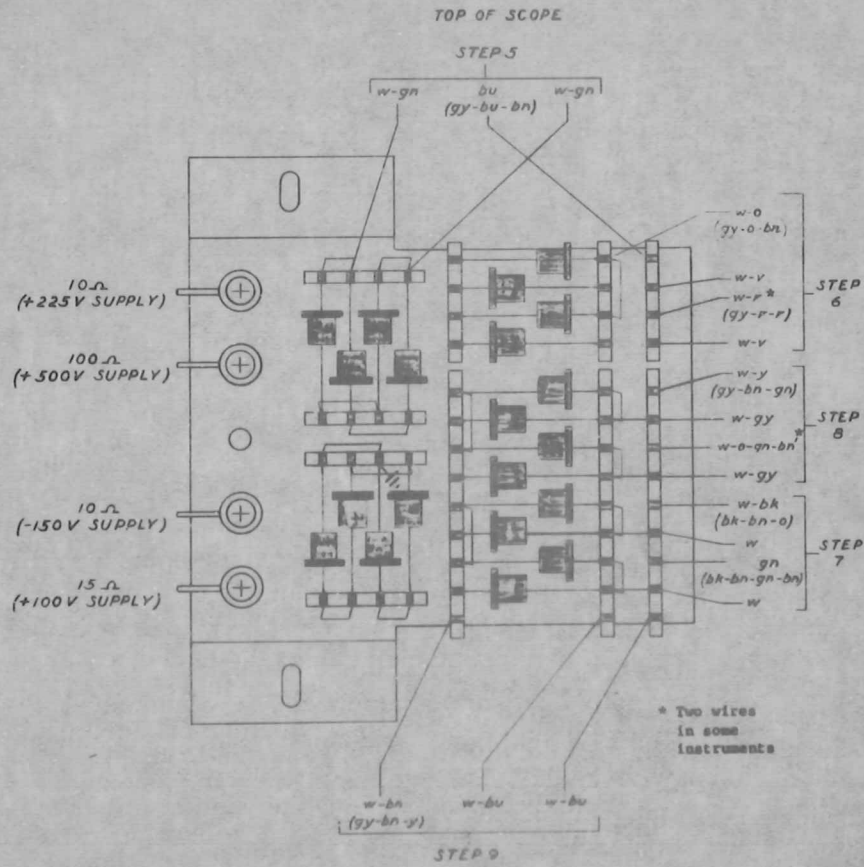

Fig. 1
- () 2. Mount the silicon rectifier bracket, using the mounting holes and screws that were used for mounting the SR740 selenium rectifier stack (see Fig. 1).
- () 6. Solder the two white-green wires and the solid blue (gray-blue-brown) wire to the ceramic strip slots, as shown in Fig. 1 (step 5).
- () 6. Solder the white-orange (gray-orange-brown), the two white-violet, and the white-red (gray-red-red) wires to the ceramic strip slots as shown in Fig. 1 (step 6).
- () 8. Solder them to the ceramic strip slots as shown in Fig. 1 (step 7).
- () 9. Dress these wires under the power cable and solder them to the ceramic strip slots as shown in Fig. 1 (step 8).
- () 10. Solder them to the ceramic strip slots as shown in Fig. 1 (step 9).